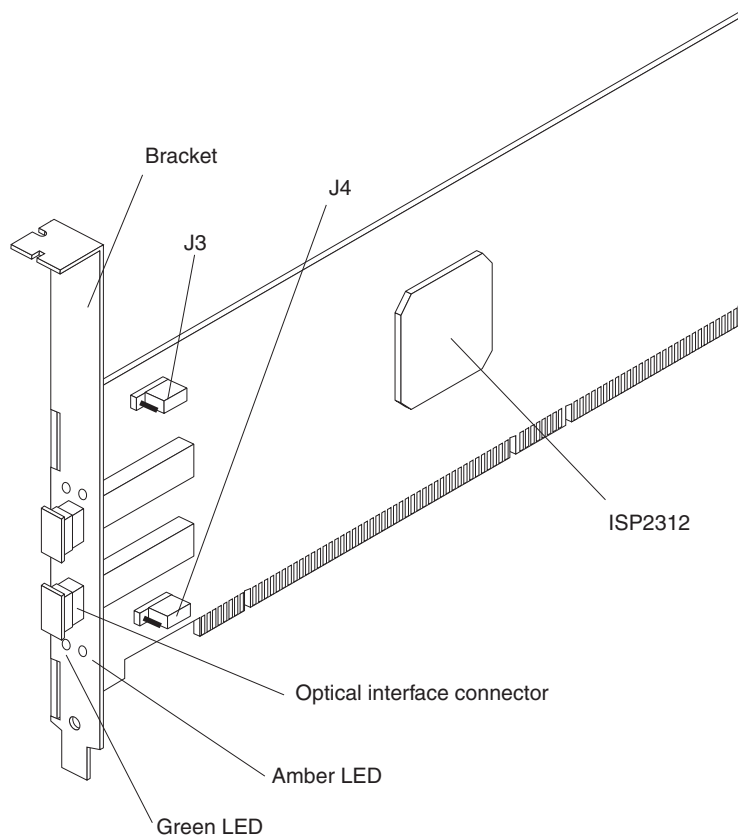

Figure 2. FAStT FC2-133 components
The FAStT FC2-133 is a 2 Gbps high-performance, direct memory access (DMA), bus master, fibre channel (FC) host bus adapter that is designed for high-end systems. The function and performance are derived from the ISP2312 chip (see Figure 2 on page 2), making the FAStT FC2-133 a leading-edge host bus adapter.
Figure 2 identifies the FAStT FC2-133 components that are referred to in this document.
The FAStT FC2-133 comes with an attached standard 3U adapter bracket, as shown in Figure 2 on page 2. A Low Profile 2U bracket also comes with the adapter. Before you install the FAStT FC2-133, check the size of the storage server to verify whether you need the Low Profile 2U adapter bracket. If you need to install the Low Profile 2U bracket, go to step 1. Otherwise, go to step 2.